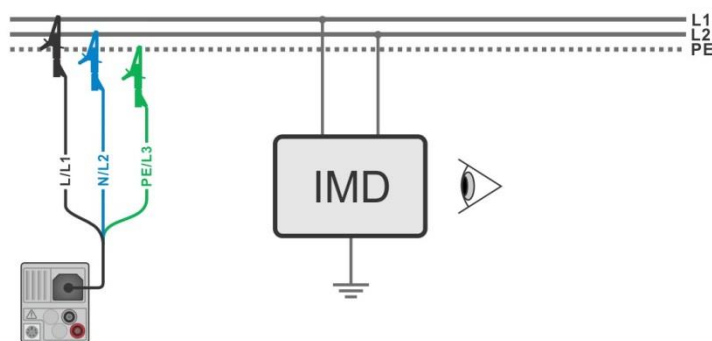

Figure 7.72: Connection with 3-wire test lead
- › Connect test leads to the object under test, see **Figure 7.72**.